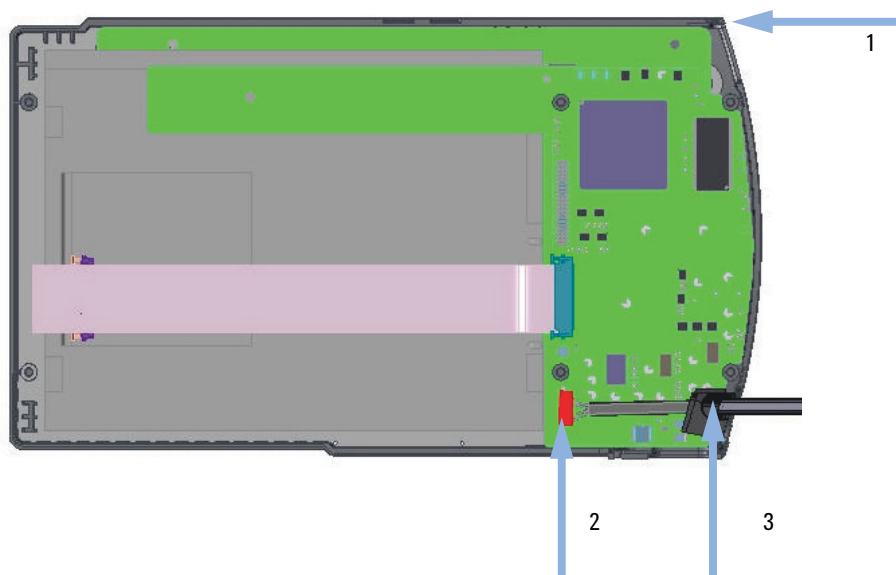

Figure 104 Rear Panel - location of cable, connector and release button
- 5 The release button [1] (shown in Figure 104 on page 155) may fall out during the removal. Keep it.